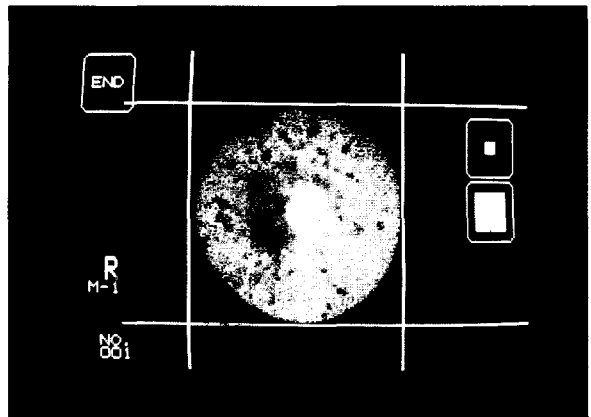

Figure 5-2
③ Press the [□] key on the touch panel or the [PRINT] switch to binarize the still picture. (The "binarize" is to sort gray dots into white or black dots and print the image.) Use [■] and [■] keys to adjust the binarize level (see Figure 5-2).